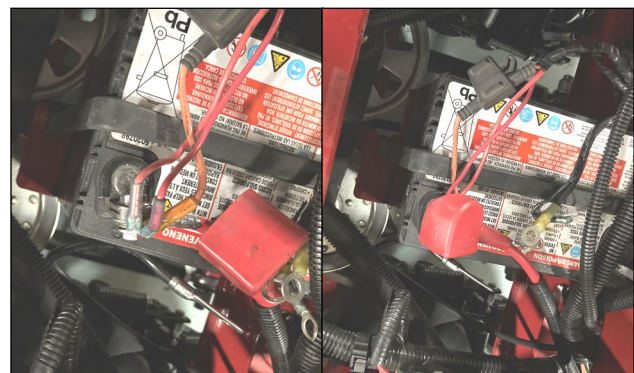

Fig. 6.4 (Positive wire connections)
- 6.4 See fig. 6.4. Route the main trunk of the A/C harness to the left and behind the battery. Attach the ring terminals on the three red and orange wires to the bolt on the positive battery terminal. Place the rubber protective boot back over the positive terminal as neatly as possible.